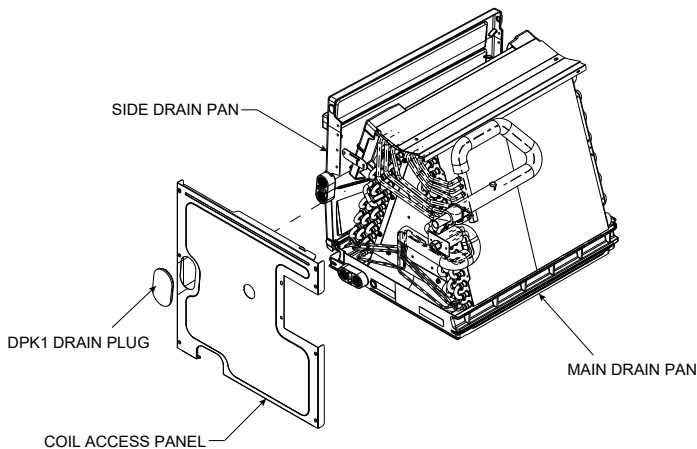

Figure 1.1
1. If the side drain pan is removed, the drain port opening in the access panel must be covered by the accessory drain port plug (DPK1) as shown in figure 1.1.